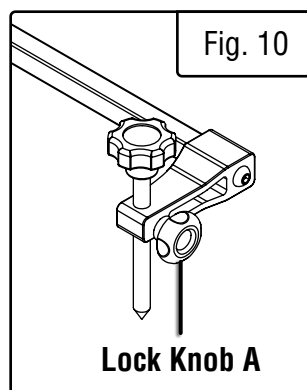

Fig. 10
1. Insert the center pin into the hole of the sliding bracket. Fix it with Lock Knob A. This center pin will serve as the pivot point for making circular cuts (Fig. 10).